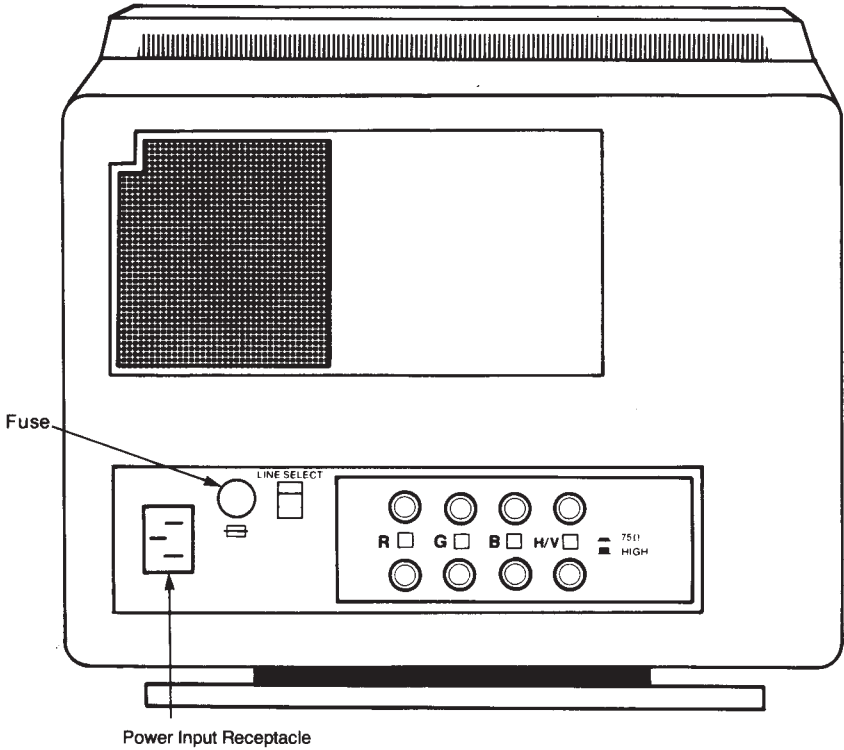

Figure A-2: Monitor Back Panel for Fifteen-inch 60 Hz Monitor
- The fuse protects the circuit. See the information printed next to the fuse for type and rating requirements. (See Figure A-2.)
- The power selector switch selects the power voltage. See the information printed on the switch for power requirements. (See Figure A-2.)